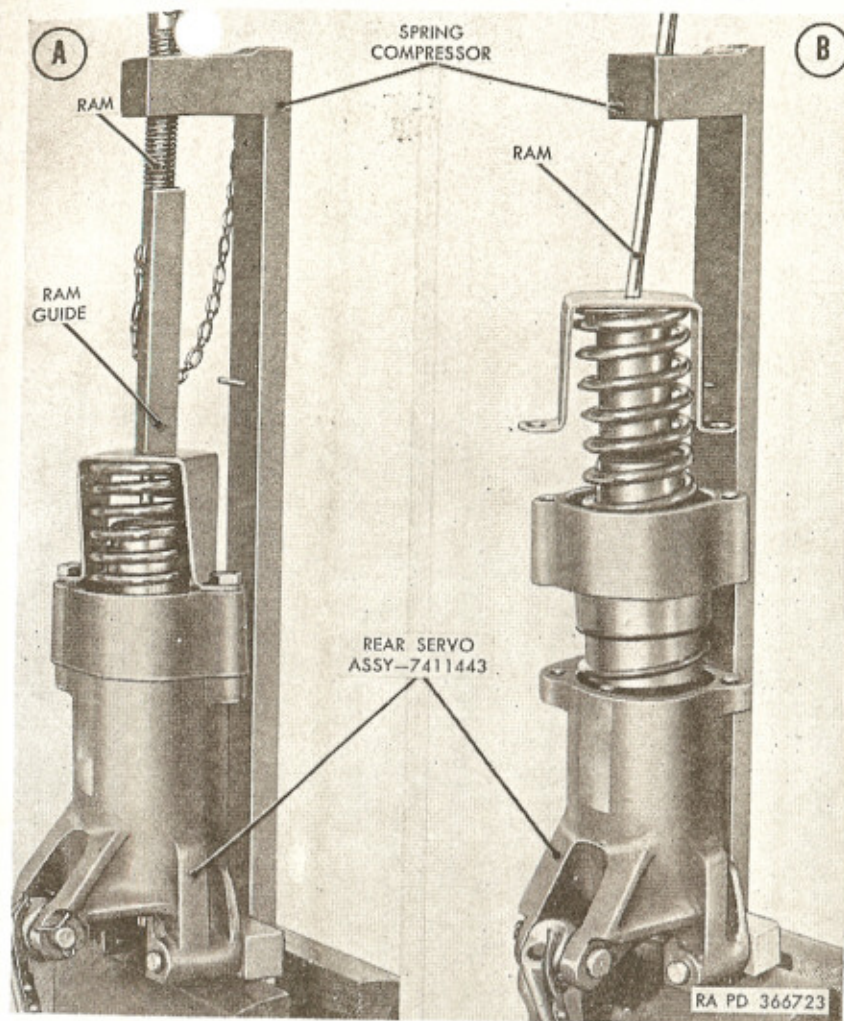

Figure 79. Use of rear servo spring compressor—C7950334 for disassembly.
b. Clamp spring compressor—C7950334 in a vertical position in a vise. Position rear servo assembly on spring compressor (fig. 79).
c. Crank compressor ram down to rest on face of compensator piston (D). Place ram guide on ram. Avoid excessive pressure that might distort accumulator piston spring retainer (B).
d. While keeping ram guide against face of accumulator piston spring retainer (B), remove two bolts attaching spring retainer to body (Q).
e. Carefully back off ram until tension is relieved on accumulator piston spring (C). Remove ram guide and ram; then remove accumulator piston spring retainer (B). Remove servo assembly from spring compressor.
f. Remove accumulator piston spring (C), compensator piston (D), and compensator piston spring (E).